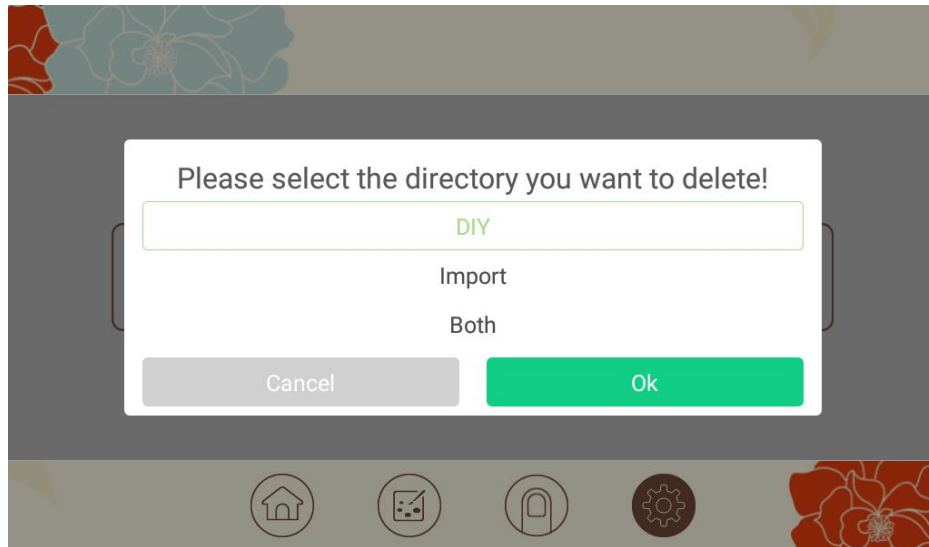

Figure 17
(3) Cache Cleanup: Press  to clean picture cache, including DIY patterns and uploaded pictures. They can be cleared separately or simultaneously, as shown in Figure 17.